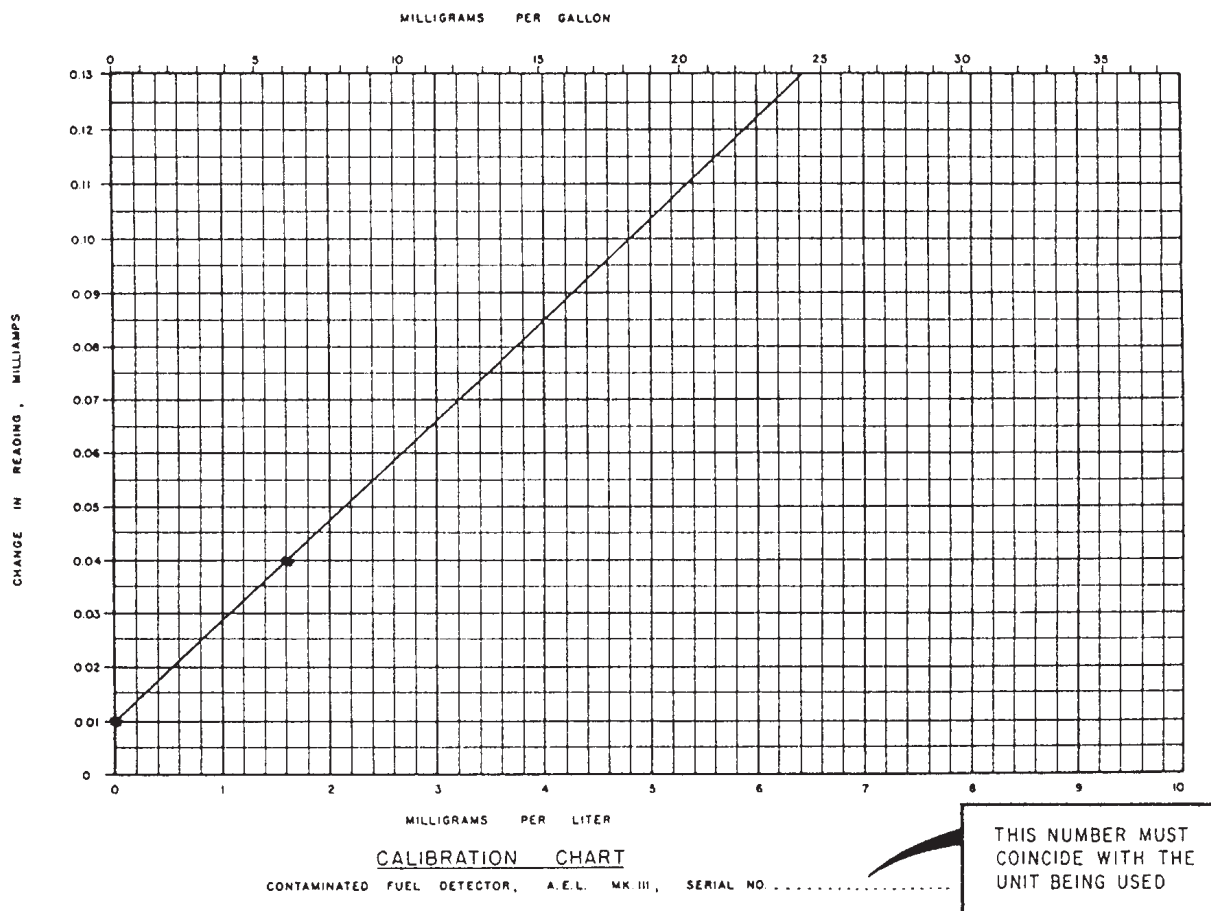

Figure 1-9.—Calibration chart.
17. Subtract the meter reading obtained from the contaminated filter (top), from the meter reading obtained from the clean filter (bottom). This change in reading value is used with the calibration chart in (fig. 1-9).
7. To obtain the calibration point, subtract the lower of the two milliammeter readings from the higher reading. This difference is plotted on the calibration chart versus the weight of contaminant per liter given for the set of WRATTEN filters. A second point is plotted at 0 milligrams per liter and 0.01 milliamps change in light reading. Example (fig. 1-9):